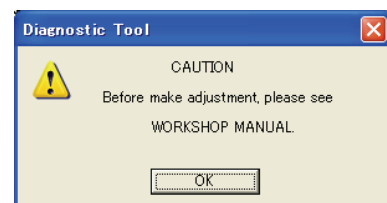

Fig. 9-3-1
- (2) Press the [OK] button on the message (Fig. 9-3-1), the feedback adjustment dialog box will appear. It shows the current settings.